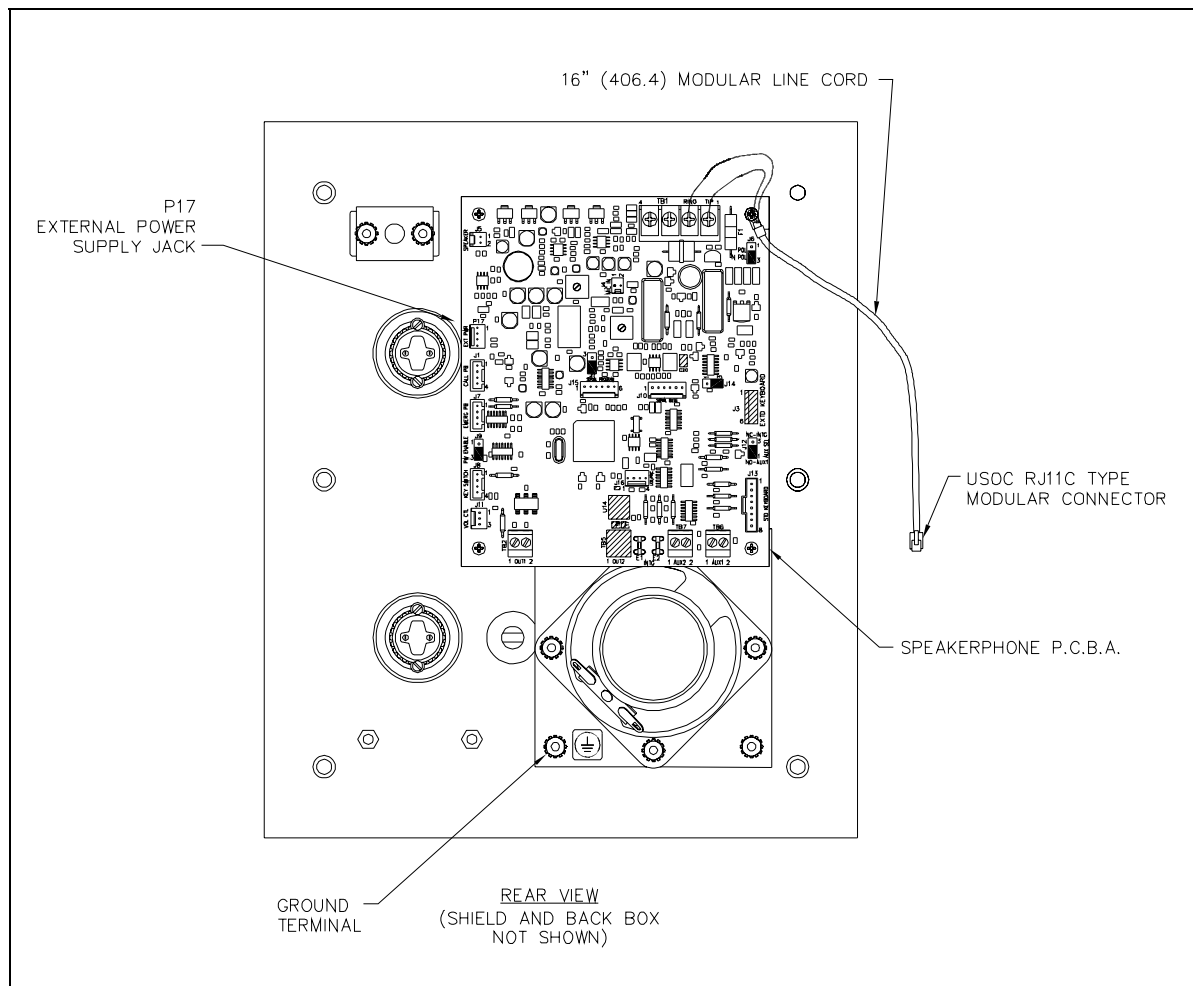

Figure 2. Models 297-101 and 298-101 - Printed Circuit Board Detail
1. Align the holes in the four corners of the new PCBA with the standoffs in the telephone, maintaining proper orientation. See Figure 2.